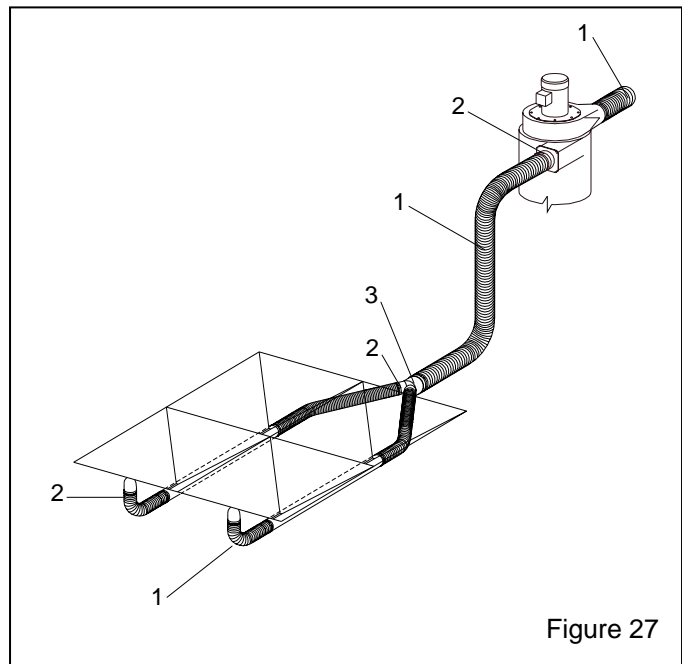

Figure 27
9.7 Flex Hose & Wye Adaptor, Figure 27